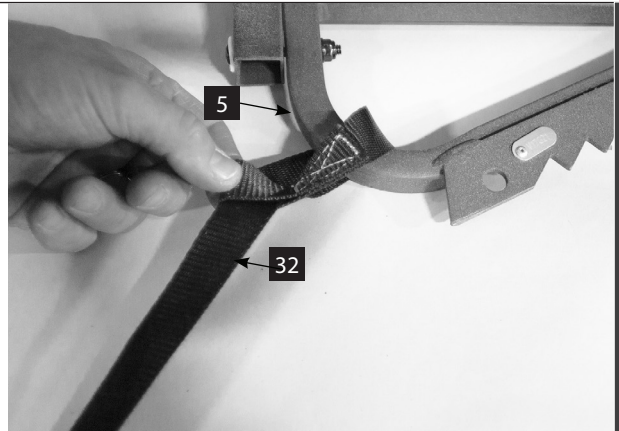

FIGURE 10A
20. Attach the two long ends of the 16' criss-cross straps (26) to the tree blade (5). These long stabilizer straps should be attached by pulling the free end of the strap through the loop end of the strap to create a cinch knot around the frame tube. **SEE FIGURE 10A AND 10B.**